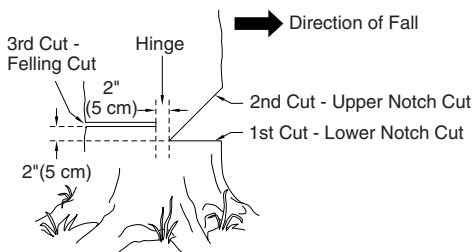

Figure 14 - Felling A Tree
A properly placed felling notch will determine direction tree will fall. Place felling notch on side of tree in direction you want tree to fall (see Figure 14). Follow directions below to create a felling notch.
1. Make lower notch cut as close to ground as possible. Hold saw so guide bar is horizontal. Cut $\frac{1}{3}$ the diameter of tree trunk (see Figure 14). **Note:** Always make this horizontal lower notch cut first. If you make this cut second, tree can pinch chain or guide bar.
Example: If lower notch cut is eight inches deep, start upper notch cut eight inches above it. Cut downward at 45° angle. The upper notch cut should meet end of lower notch cut (see Figure 14).
1. Make felling cut two inches higher than lower notch cut and on opposite side of tree (see Figure 14). Keep felling cut parallel to lower notch cut.
⚠ WARNING: Do not cut all the way through tree. Leave about two inches of tree diameter uncut directly behind felling notch (see Figure 14). This uncut portion acts as a hinge. The hinge helps keep tree from twisting and falling in wrong direction.